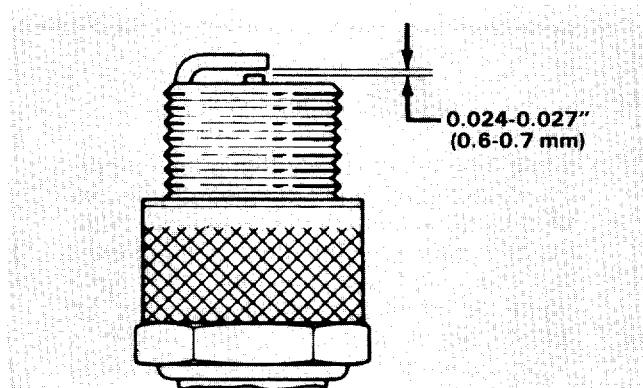

Figure 18
5. Set air gap between center and side of electrodes at 0.024-0.027 of an inch (0.6-0.7 mm) (Fig. 18). Install correctly gapped spark plug w/gasket seal, and tighten plug to 15 ft-lb (20.4 N·m). If torque wrench is not used, tighten plug firmly.